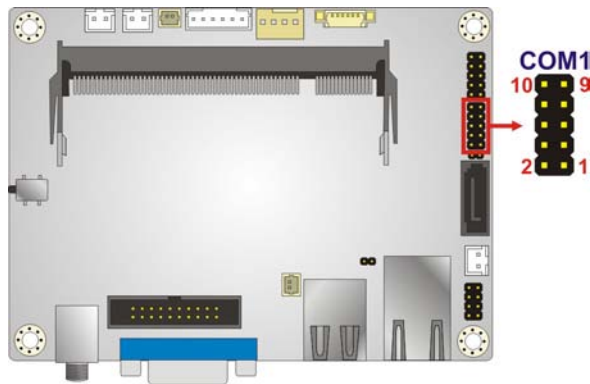

Figure 3-16: RS-232 Serial Port Connector Location
- CN Location: See **Figure 3-16**